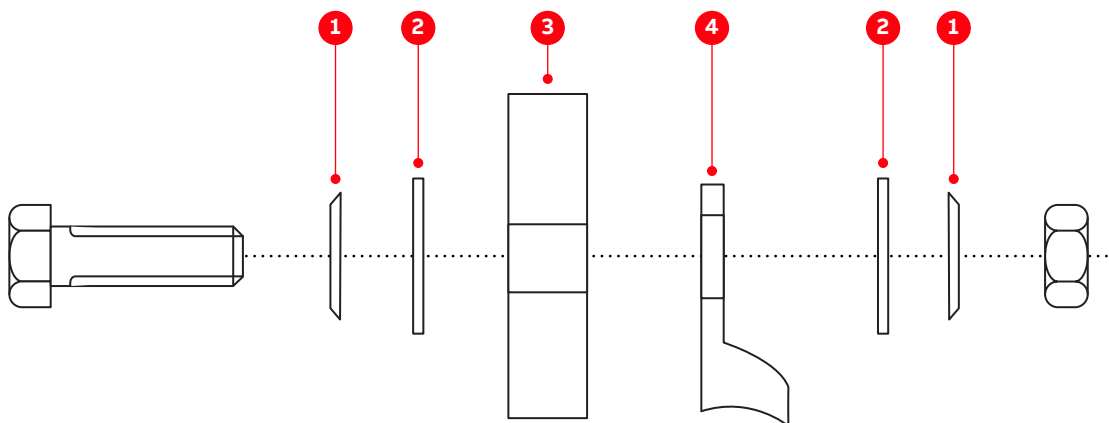

Figure 7-16: Bolted busbar connections
The following connection type is recommended when a cable lug (4 in Fig. 7-16) is connected to a busbar:
- Spring washer (1 in Fig. 7-16) and flat washer (2 in Fig. 7-16) on each side of the busbar (3 in Fig. 7-16).